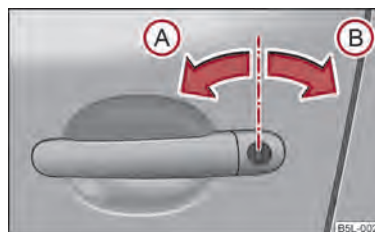

Fig. 12 Turning the key for unlocking and locking the vehicle
- Turn the key in the locking cylinder of the driver's door in the direction of travel (unlock position) **A** ⇒ fig. 12.
- Turn the key in the locking cylinder of the driver's door in the opposite direction of travel (lock position) **B** ⇒ fig. 12.